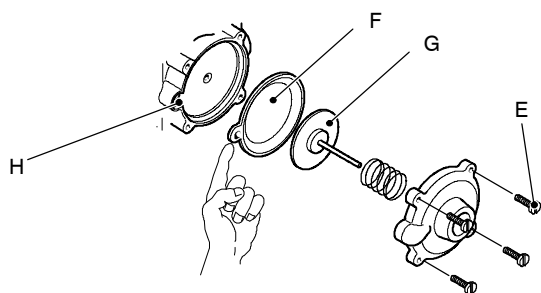

Fig. 51
- 3 Unscrew the four screws E (see Fig. 51) open the hydraulic operator and remove the membrane F.
When assembling the membrane, ensure that its concave side faces towards the actuator plate G and the reference indicated aligns with the seat H (see Fig. 51).